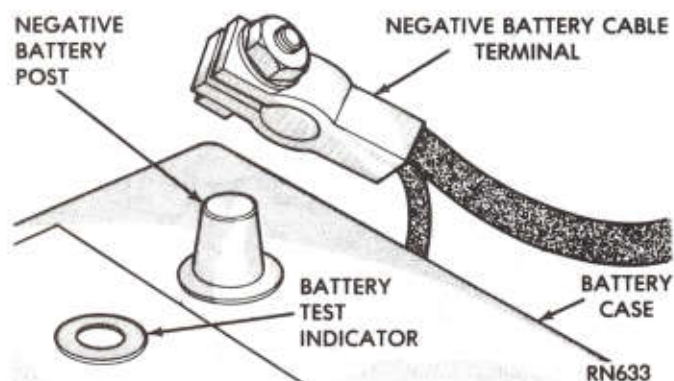
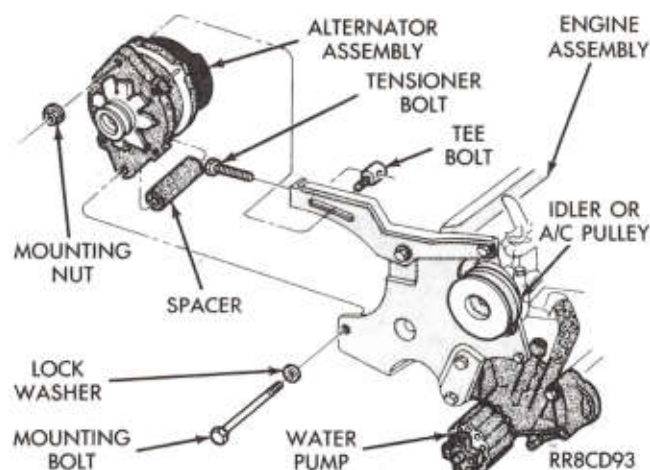

Fig. 1—Remove or Install Battery (—) Cable
Fig. 2—Remove or Install Alternator Assembly
- (1) Remove the negative battery cable (Fig. 1).
- (2) Remove alternator drive belt. See Group 7, "Cooling System" for instructions.
- (3) Remove the alternator mounting nut (top) and bolt (bottom) and position the alternator so the wire connectors face the front of the vehicle (Fig. 2). When installing alternator position the spacer between the end shield lower pivot mounts.
- (2) Separate cover from the alternator (Fig. 2).